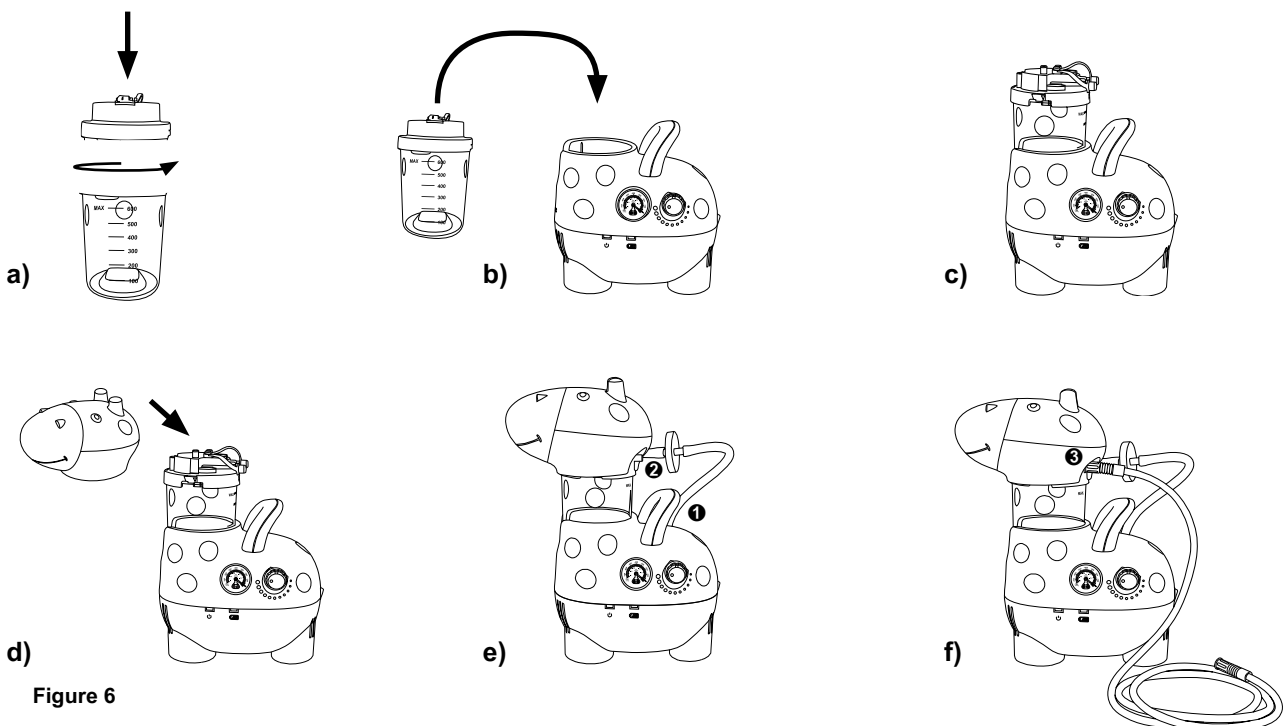

Figure 6
- Press the container lid onto the container (Figure 6 / a) with both hands as far as it will go, exerting light pressure & close the lid with a clockwise rotation.
- Then insert the secretion container into the device (Figure 6 / b,c).
- Put the head on the secretion container (Figure 6 / d).
- Connect the suction tube to the connecting piece at the side of the secretion container lid (Figure 6 / f ③), turning it slightly.
- The filter is connected between the connection on the suctioning device (Figure 6 / e ①) and the connection for the suctioning device in the centre of the secretion container lid (Figure 6 / e ②) with the aid of the two short connecting tubes.